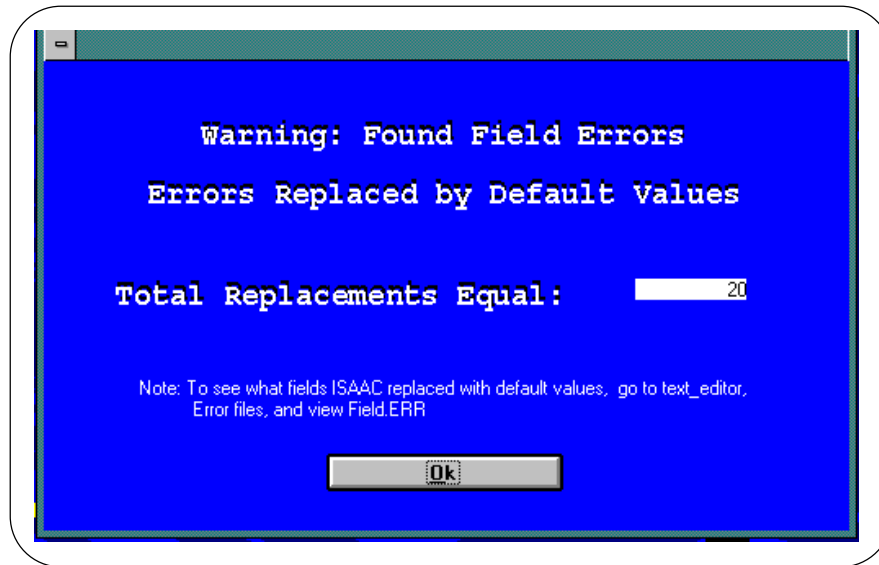

Figure 4-11.
- If there are any field errors discovered during the model component field validation, a "Warning: Found Field Errors" window (Figure 4-11) will appear.